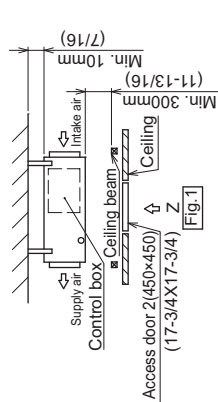

Fig.5
- Create access door 4 below the control box and the unit as shown in Fig.5.